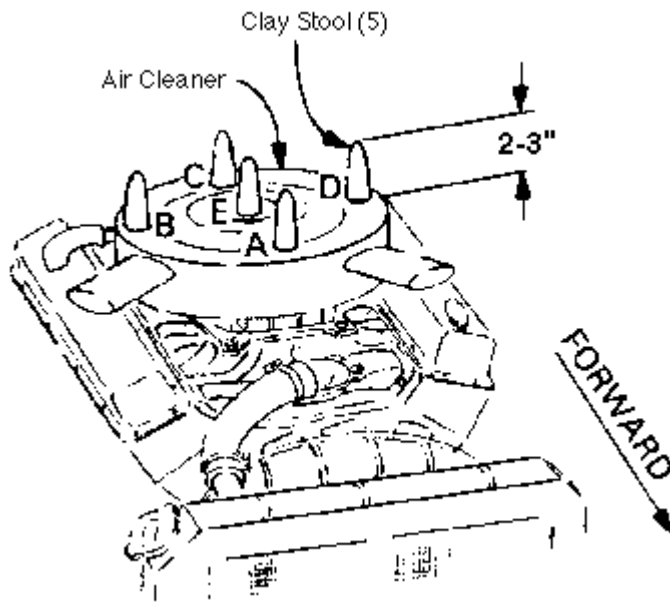

Figure 1
2. Position stools on air cleaner at front, rear, each side and on center stud. See Figure 1.